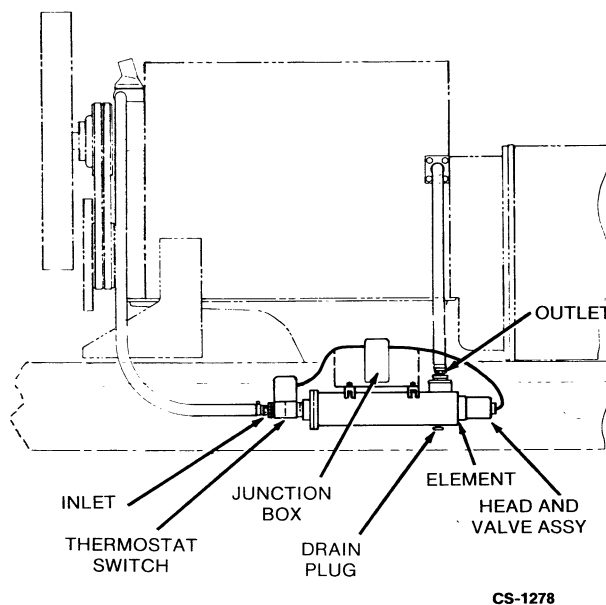

FIGURE 6. COOLANT HEATER
The coolant heater is located inside the side rail as shown in Figure 6. Check the operation of the coolant heater by verifying that hot coolant is being discharged from the outlet hose. For efficient operation and maximum life, flush the coolant heater whenever the cooling system is cleaned. See the following paragraph.
- C. Remove the coolant heater drain plug on the bottom of the heater. See Figure 6.